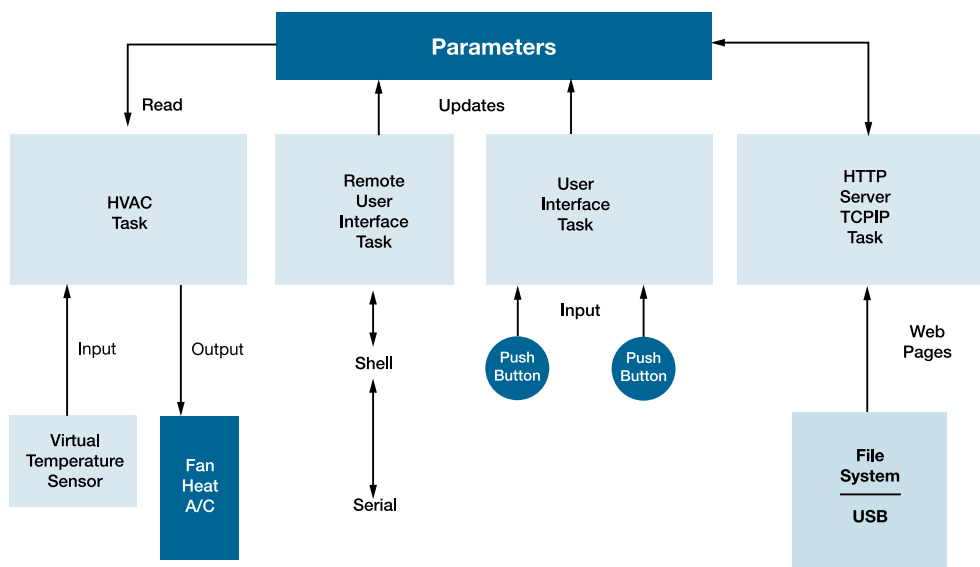

Figure 1: M52259EVB board layout
1. Make the following connections from the MCF52259 board to the computer. See **Figure 1** on right.